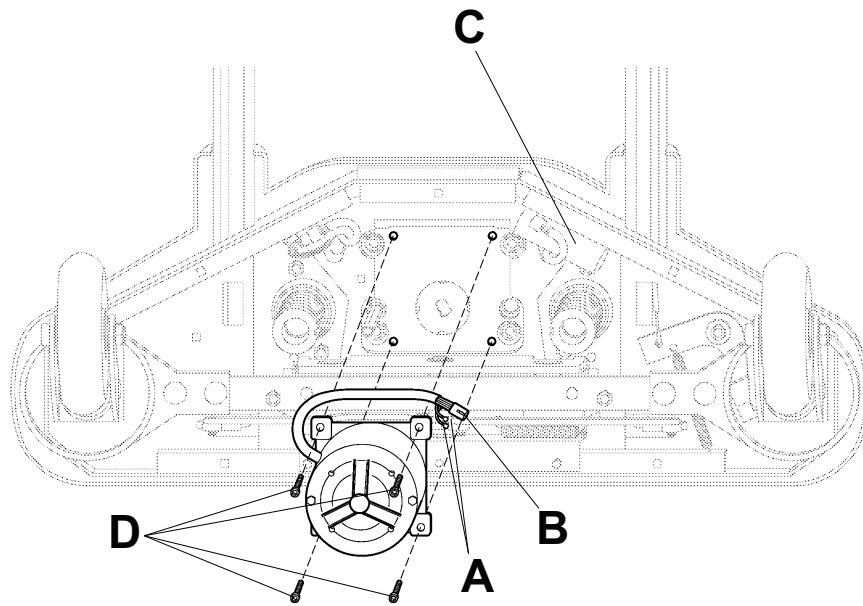

Figure 8 – Foot end view
3. Disconnect the two connectors (A) at the motor capacitor (Figure 8).
4. Disconnect the white connector (B) from the power cord.
5. Using wire cutters, cut the cable ties that secure the capacitor (C) to the base. Remove and discard the capacitor.
6. Using a 3/8" socket, remove the four screws (D) that secure the motor assembly to the lift housing. Remove and discard the motor assembly.